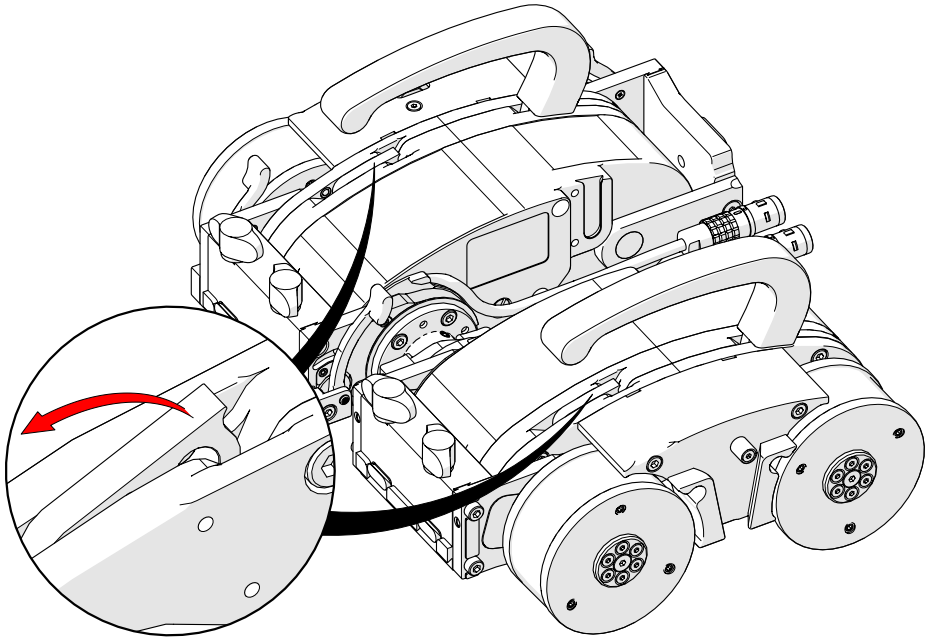

Fig. 97 - Lift tether attachment points
1. Lift the two tether attachment points (Fig. 97).